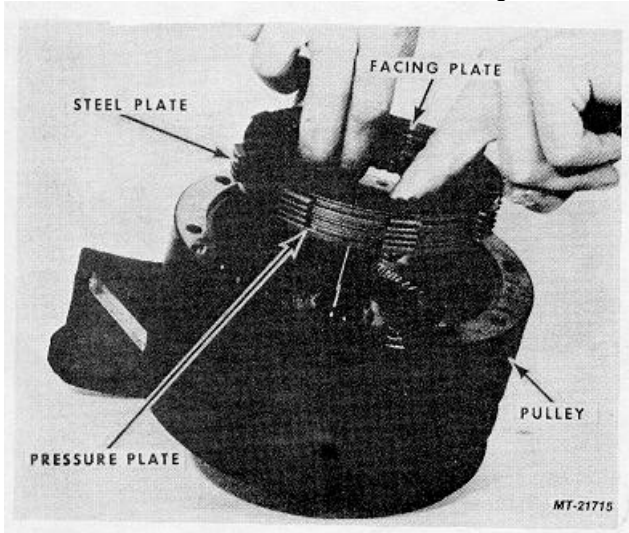

Fig. 23
20. Remove the stack of plates consisting of Facing Plates, Steel Plates, and a Pressure Plate, Fig. 23.